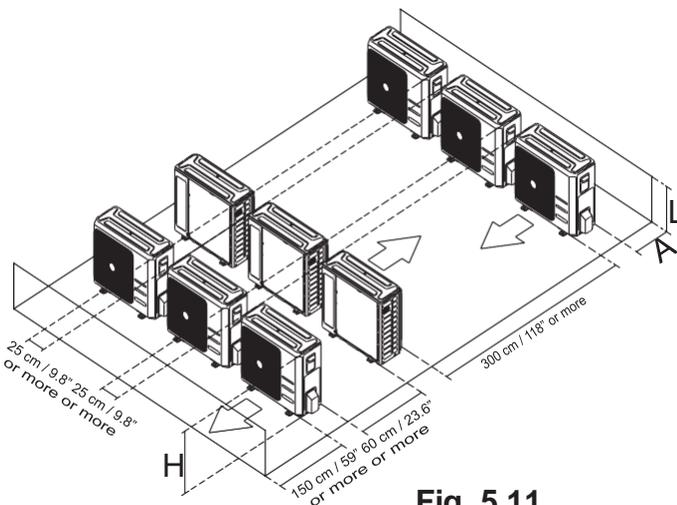

**Fig. 5.10**
**NOTE:** The minimum distance between the outdoor unit and walls described in the installation guide does not apply to airtight rooms. Be sure to keep the unit unobstructed in at least two of the three directions (M, N, P) (see Fig.5.10)